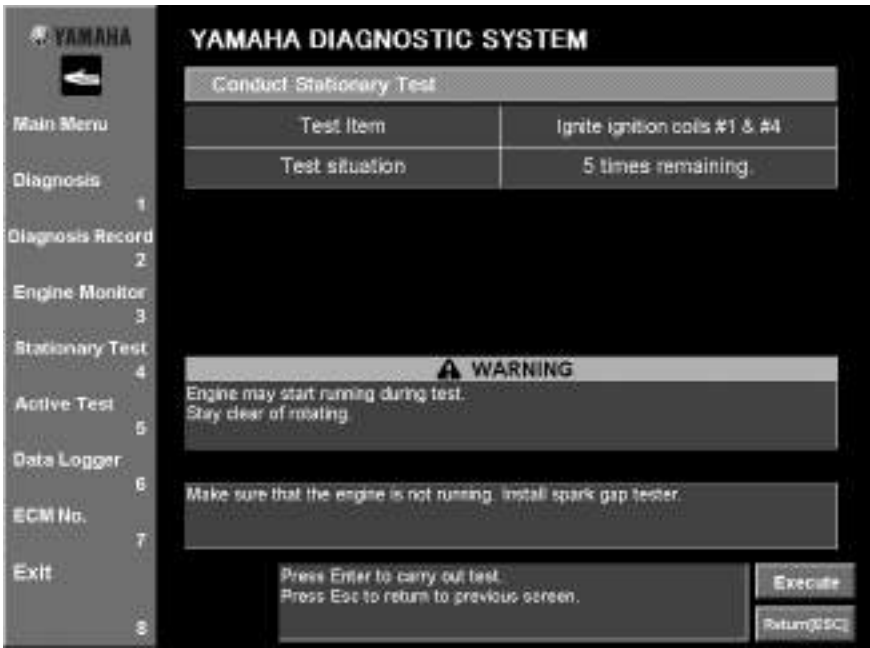

Fig. 42
5. Click the **Execute** button or press the Enter key on your keyboard. (Fig. 42)